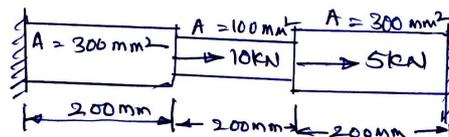

Fig.Q9(c)
c. Determine the nodal displacement, stress, reaction force, for the bar shown in Fig.Q9(c), using FEM.